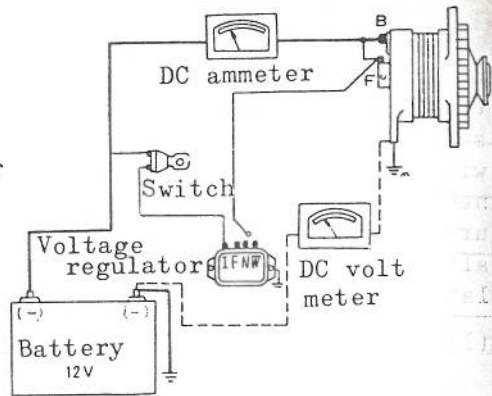

Fig. 10-117
e) Then, connect the volt meter in circuit as illustrated in Fig. 10-117 and measure the voltage drop in the negative side. Check to make sure that the voltage difference is within 0.4V.